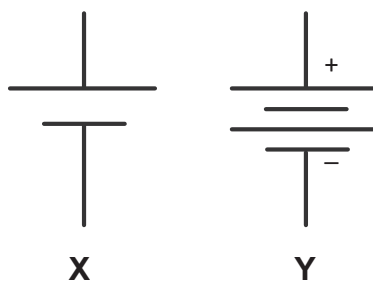

Fig. 8
- 6 (a) Name the electronic components represented by the symbols labelled **X** and **Y** in **Fig. 8** below.